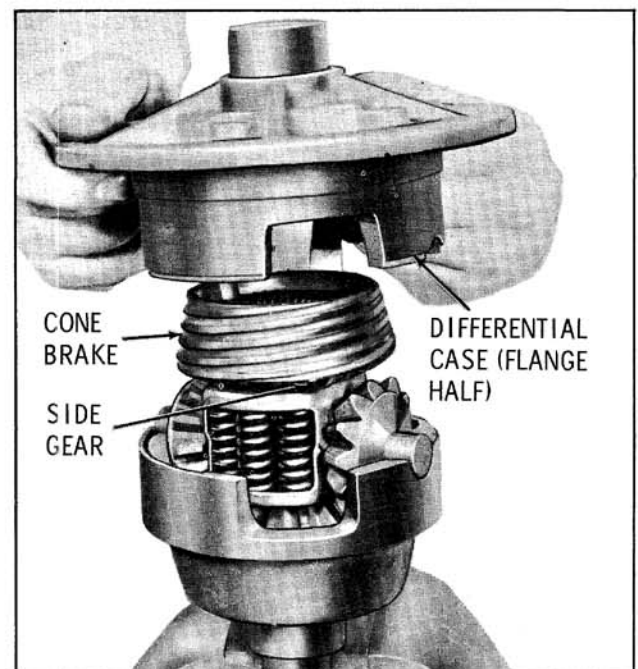

Fig. 10-45 Assembling Case
8. Install flange side of differential assembly over cone in proper position to match alignment marks; insert two bolts finger tight 180° apart. (Fig. 10-45)